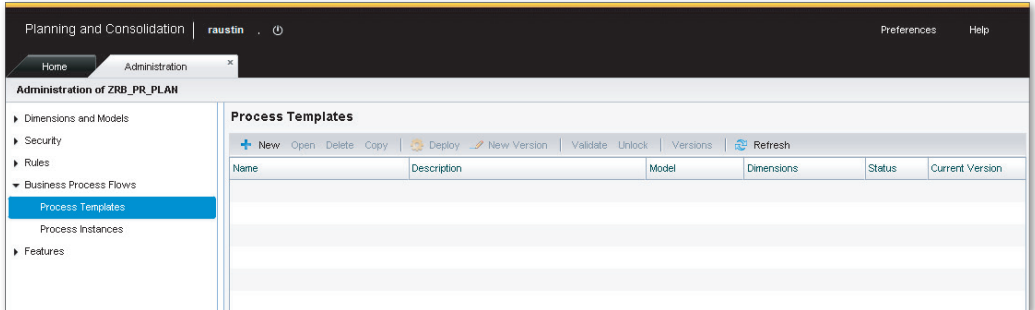

Figure 10.1 Creating a Business Process Flow Template—Part A
1. To create a template, select the **PROCESS TEMPLATES** view under the **BUSINESS PROCESS FLOWS** domain in the **ADMINISTRATION** workspace inside the Web Client (Figure 10.1). To create a template, click on the **NEW** menu button.